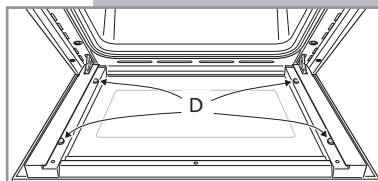

Fig. 14
- Check that the four rubber pads are in place (**D** in Fig. 14).